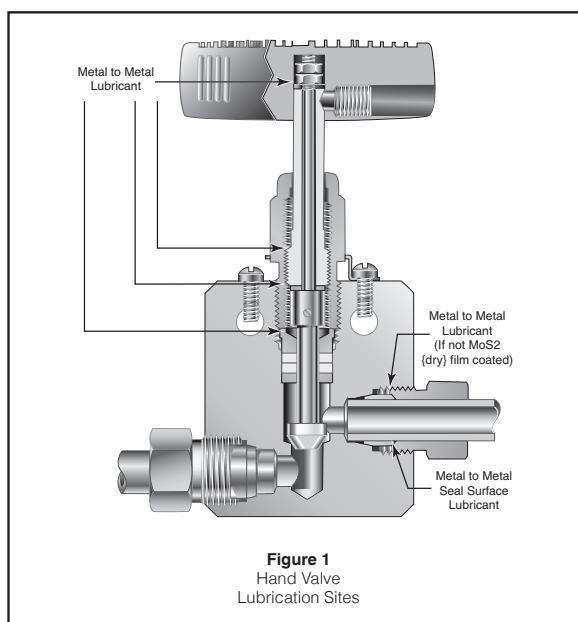

Figure 1
2. Hand Valves - Ideally, the non-rotating stem should be lubricated along the shank that fits into the threaded stem sleeve as well as on the surfaces that are in contact with the stem washers. The threaded stem sleeve should be lubricated on the stem threads and at the ends (see Figure 1). The packing gland should be lubricated on the external threads and on the end that is in contact with the packing washer. For valves with replaceable seats, the external threads on the seat retainer and the portion of the seat retainer in contact with the seat should be lubricated.